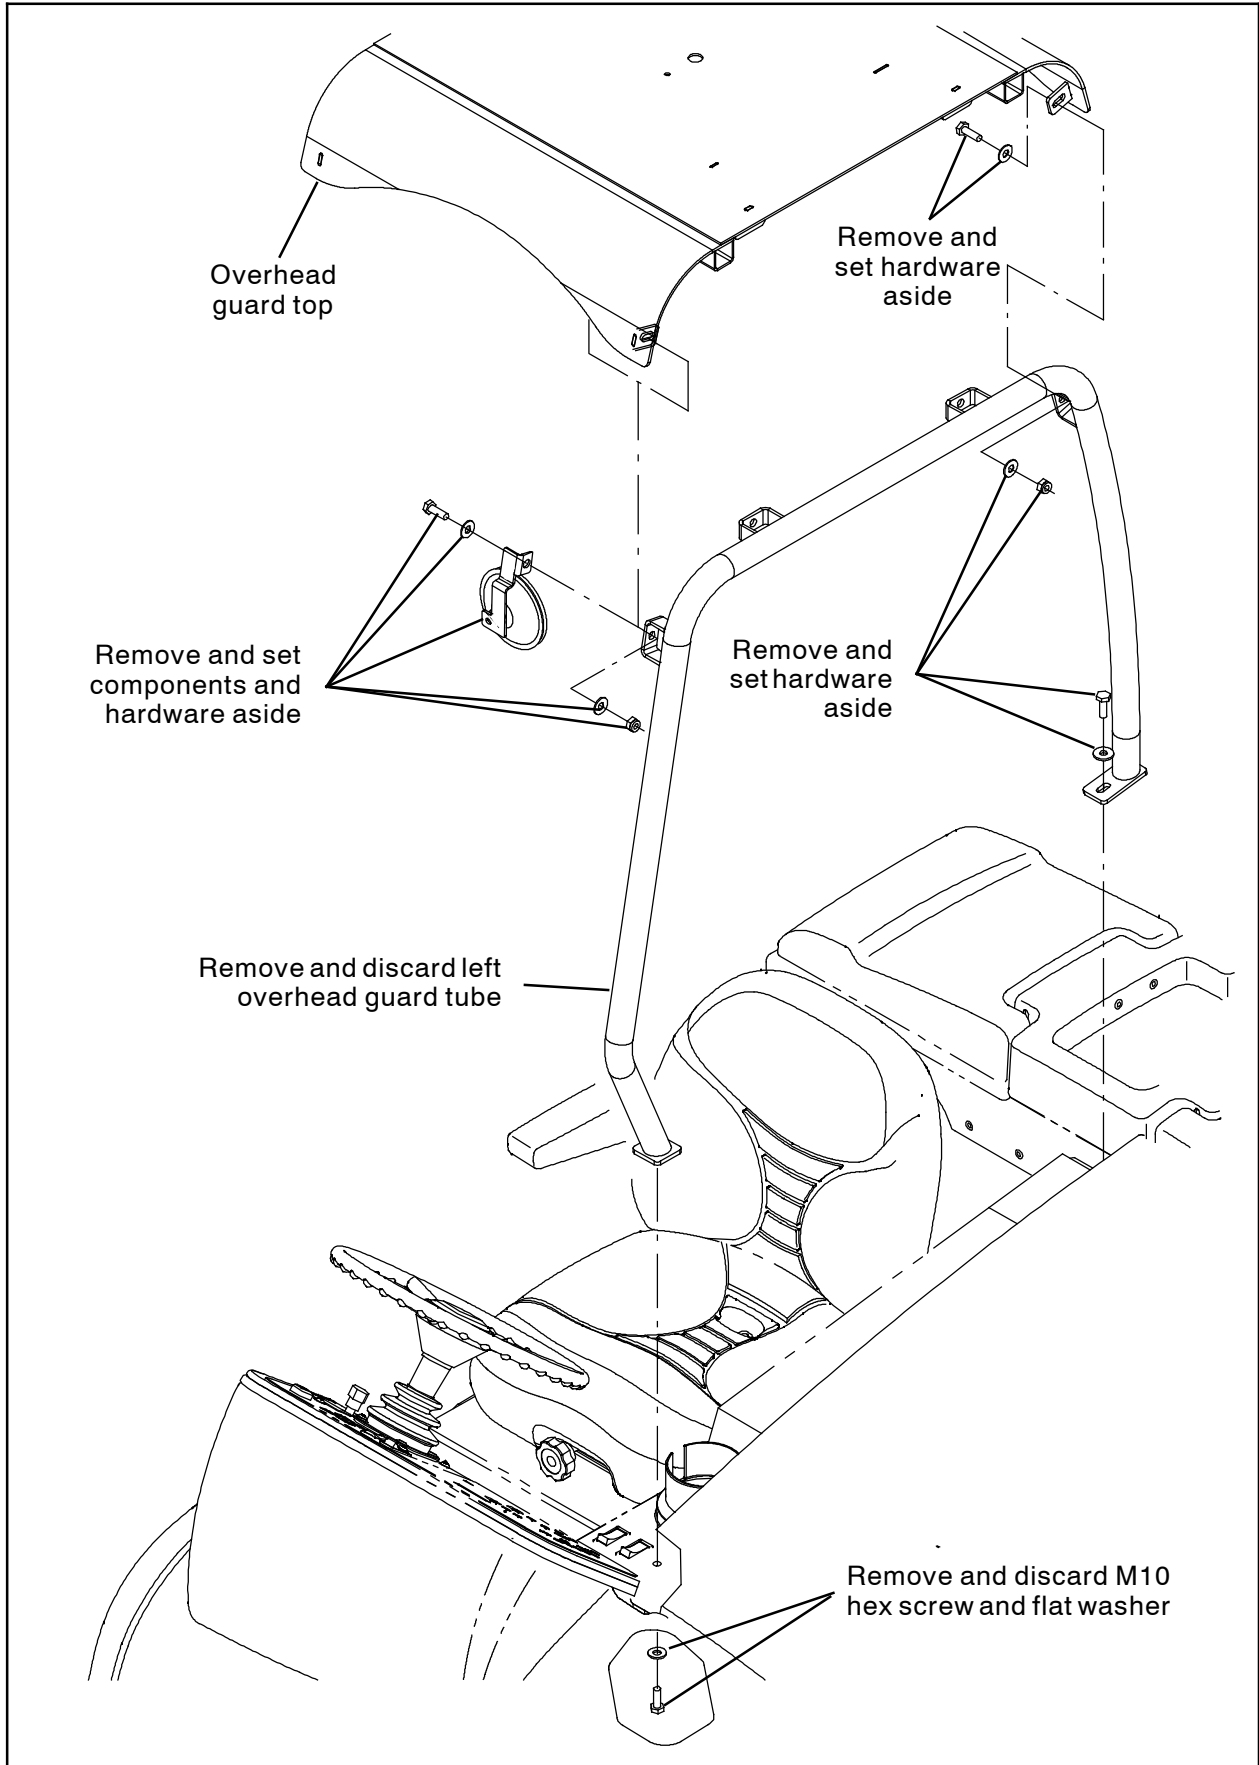

FIG. 2
1. Remove hardware necessary to remove the left overhead guard tube from the machine. Set all hardware and components aside except the left overhead guard tube and the M10 hex screw and flat washer previously securing the left overhead guard tube to the pocket panel. (Fig. 2)